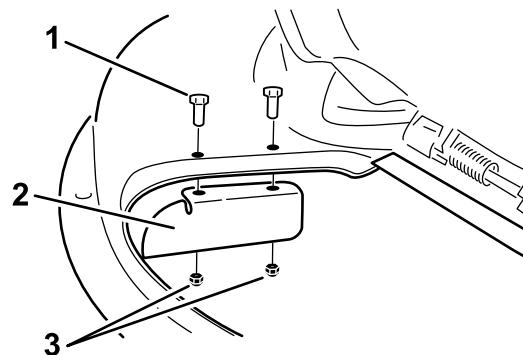

Figure 34
9. Install the cutoff baffle to the mower deck (Figure 34).
3. Remove the cutoff baffle from the mower deck (Figure 34).